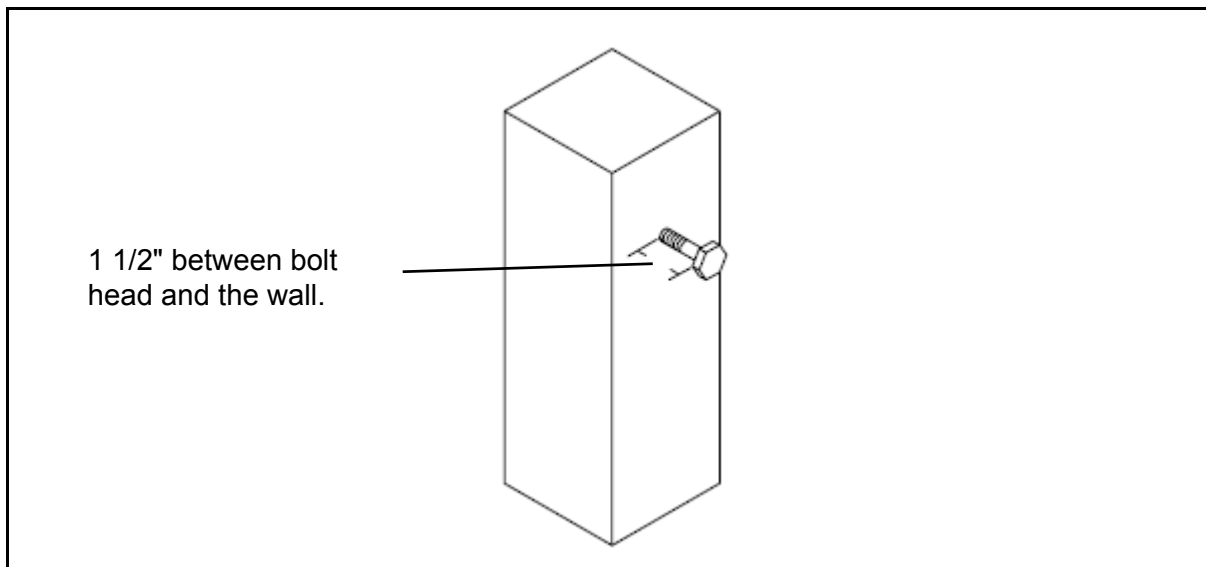

Figure: 3A
**Note:** Leave 1 1/2" between the bolt head and the wall. (See Figure 3A)